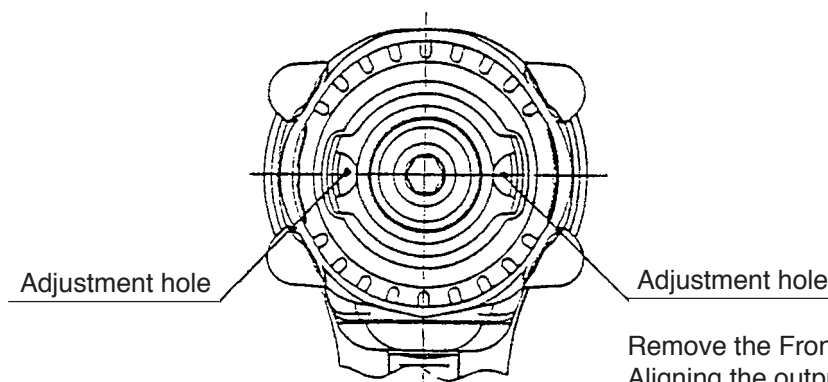

Fig. 2
Check the Oil Pulse Set [16] for abnormality and adjust it if abnormal.	<p>Set an ammeter as shown in Fig. 1. Operate the Model WP 12DM on a fully charged DC 12 V battery to measure the current required for tightening five wood screws 120 mm in length into hemlock spruce. Check: Current required for tightening ... 30.0 A to 34.0 A</p> <p>OK → End</p> <p>NG →</p> <p>Remove the Front Cap [5] as shown in Fig. 2. Aligning the output adjustment valve with the adjustment hole of the Hammer Case [9], turn it using a 1.5-mm hexagonal wrench to adjust the current for tightening screws.</p> <ul style="list-style-type: none"> ● When the current is small: Turn the output adjustment valve clockwise. ● When the current is large: Turn the output adjustment valve counterclockwise. <p>[Table 1 shows the relationship between the turning angle of the output adjustment valve and the current for tightening screws as an index of adjustment.]</p> <p>It cannot be adjusted even though the output adjustment valve is fully closed.</p> <p>Replace the Oil Pulse Set [16].</p>
- Table 1 shows the relationship between the turning angle of the output adjustment valve and the current for tightening screws as an index of adjustment. Figures 2 and 3 show the position of the output adjustment valve.